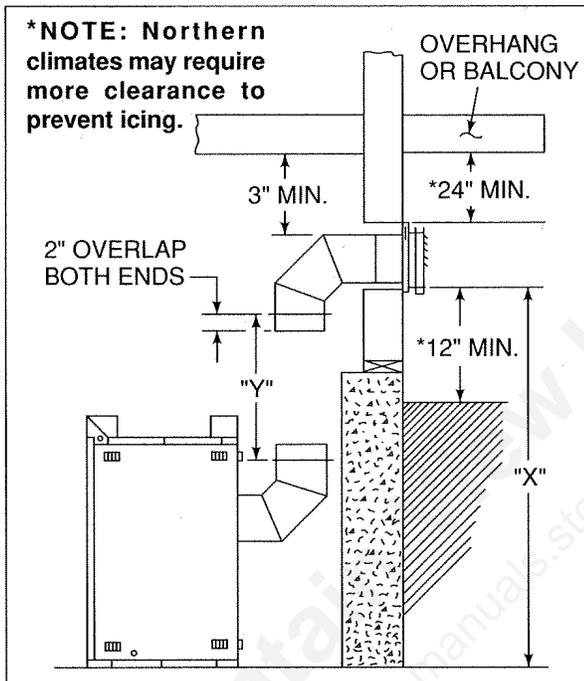

Figure 6
Attach the lower set of elbows, using (3) screws per attachment. The elbow must be positioned in a vertical position only. Next, determine the length of the vertical pipe section using Figure 6 and Table 2, and attach to the lower elbow using (3) screws. Secure the top two elbows to the vertical pipe section, either at a 45° angle or straight out, depending on the installation.